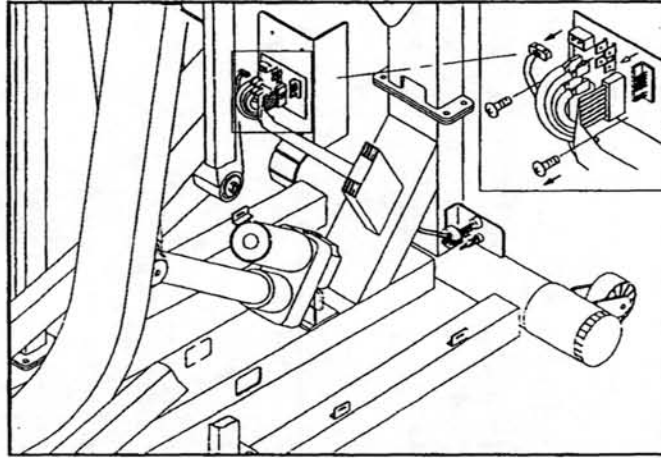

Fig.18-1
2. Unplug all the connectors from the POWER SUPPLY BOARD and then remove the screws which fixing the ELECTRONICS PACKAGE on the FRAME (see Fig.18-1 & its enlarged figure). Finally, take off the POWER SUPPLY BOARD.